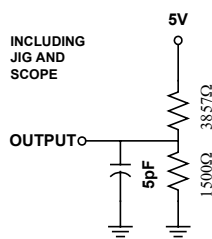

FIGURE 1B
5. Transition is measured $\pm 500\text{mV}$ from steady state with $C_L = 5\text{pF}$ as shown in Figure 1B. The parameter is guaranteed but not 100% tested.
10. Transition is measured $\pm 500mV$ from steady state with $C_L = 5pF$ as shown in Figure 1B. The parameter is guaranteed but not 100% tested.